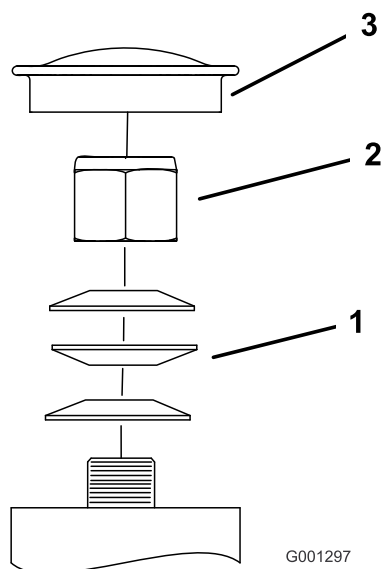

Figure 76
3. Remove the dust cap from caster and tighten the locknut (Figure 76).
4. Tighten the locknut until the spring washers are flat, and then back off a 1/4 turn to properly set the preload on the bearings (Figure 76).
Important: Make sure that the spring washers are installed correctly as shown in Figure 76.
5. Install the dust cap (Figure 76).